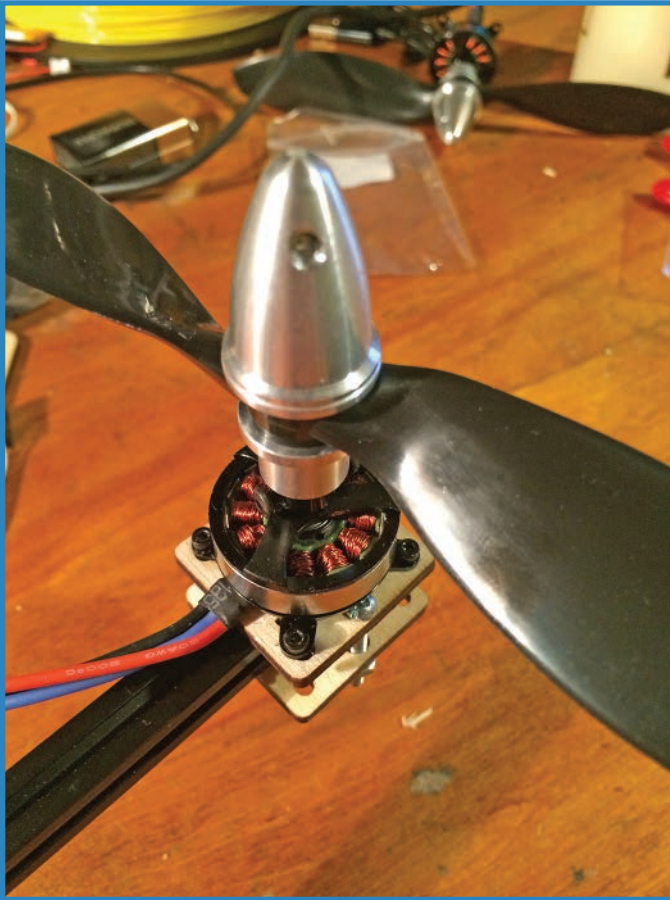

FIGURE 6.7 You'll attach the motors and propellers to your quadcopter.
- Collets are metal clamps that look like cones—you can see an example in Figure 6.7 in the following section. These adapters are very secure, and you can be sure your propeller won't fall off the motor shaft. Surprise, this is not necessarily a good thing! It turns out that quadcopters break propellers all the time. Think of it—the props are thin plastic rotating at high speeds. If the propeller hits a sidewalk or wall, it's going to break. Many a drone-flying outing has ended abruptly when the pilot ran out of propellers! I used this method for the quadcopter project in this book.
For the next segment of the quadcopter project, you'll tackle adding the motors and propellers, as shown in Figure 6.7. Each boom of the quadcopter will get a motor, a propeller, and the hardware to mount both. So without further ado, let's get started.